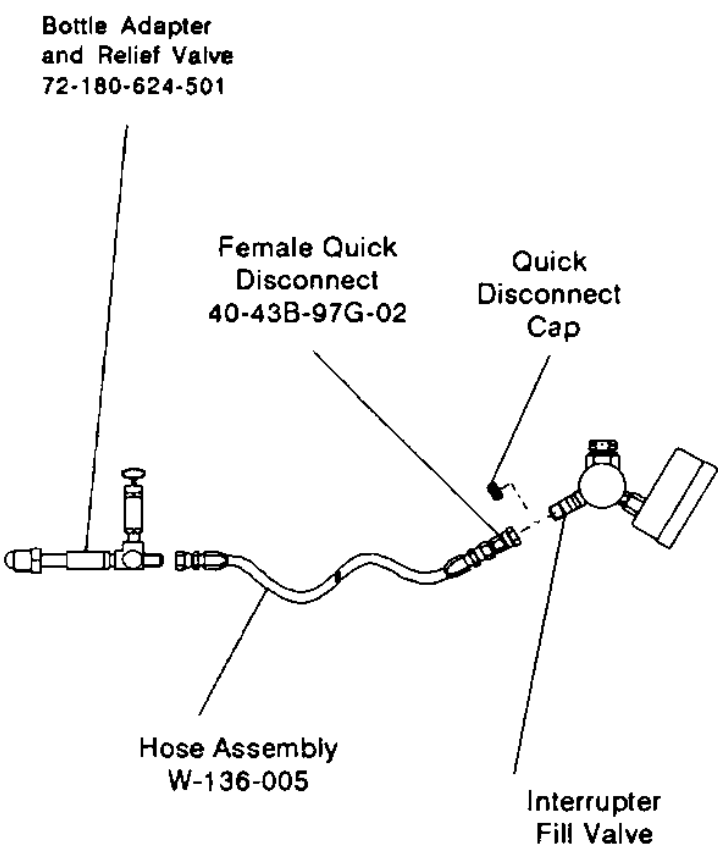

Figure 56 -- SF₆ Fill Kit **72-265-035-406**
1. Remove gas by using charging hose assembly. Refer to Figure 56.
- 7. Open SF₆ cylinder valve slowly and fill to proper SF₆ pressure determined by ambient temperature measurements and referred to Pressure Vs. Temperature Curve (Figure 56).